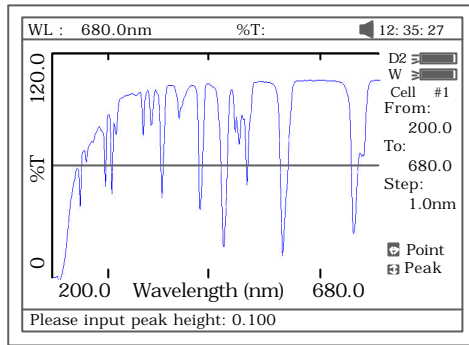
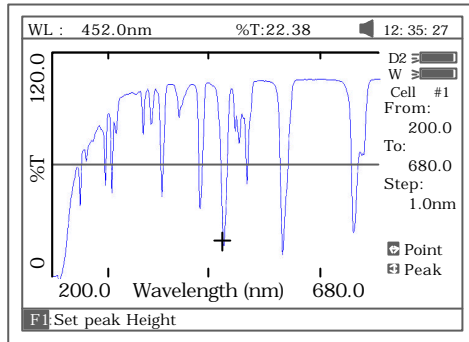

Fig 50
Fig 51
- a) *Peak to peak, press **[F1]** to set "peak height" and input value by pressing the numeric keypad (Fig 50). Press **[]** to search the peak from left to right and press **[]** to search from right to left. The value of every peak found will be displayed on the screen one at a time (Fig 51).*